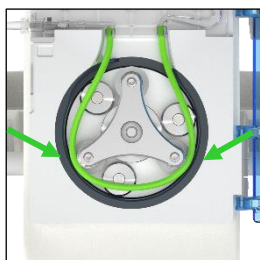

Figure 47. **Correct position** of the tubing segment
5. Ensure that the tubing segment for the roller pump of the Easy-Click-Cassette – flex is positioned outside of the 3 guide rollers. If necessary, position the tubing segment for the roller pump outside of the guide rollers (see Fig. 47).